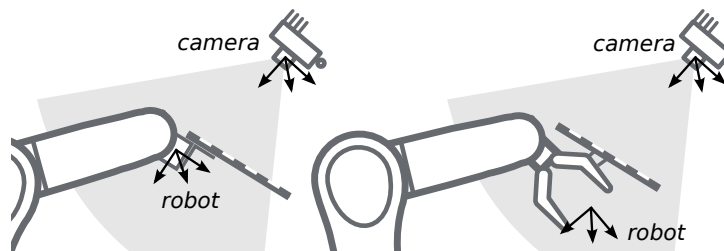

Fig. 5.7: Alternate mounting options for attaching the calibration grid to the robot
**Calibration with a statically-mounted camera** In use cases where the camera is positioned statically w.r.t. the robot, the calibration grid needs to be mounted to the robot as shown for example in Fig. 5.6 and Fig. 5.7.
**Note:** The hand-eye calibration component is completely agnostic about the exact mounting and positioning of the calibration grid w.r.t. the user-defined *robot* frame. That means, the relative positioning of the calibration grid to that frame neither needs to be known, nor it is relevant for the calibration routine, as shown in Fig. 5.7.